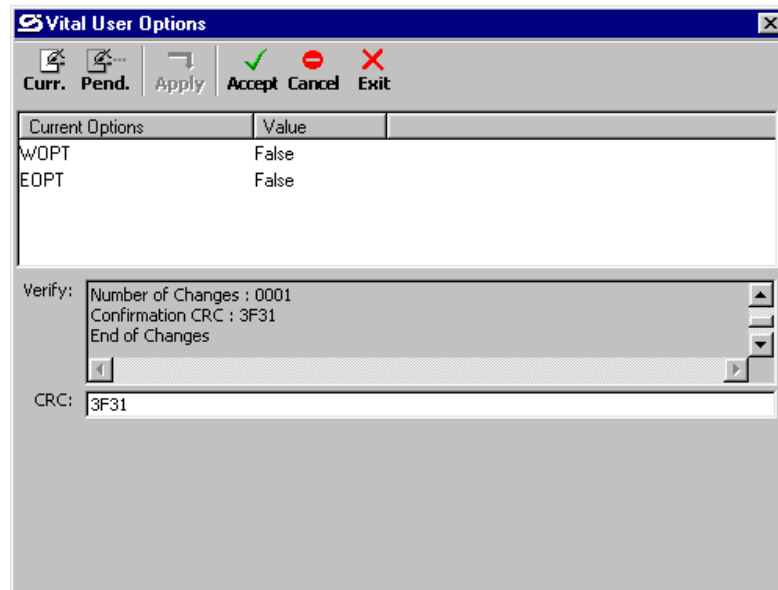

Figure 3-43
10. If the changes are correct, scroll down until the Confirmation CRC value is displayed and then enter this value in the “CRC” text box immediately below the “Verify” list box (figure 3-43). Entering the CRC ensures that the changes are confirmed with the GEO™ unit. This entry is not case sensitive.